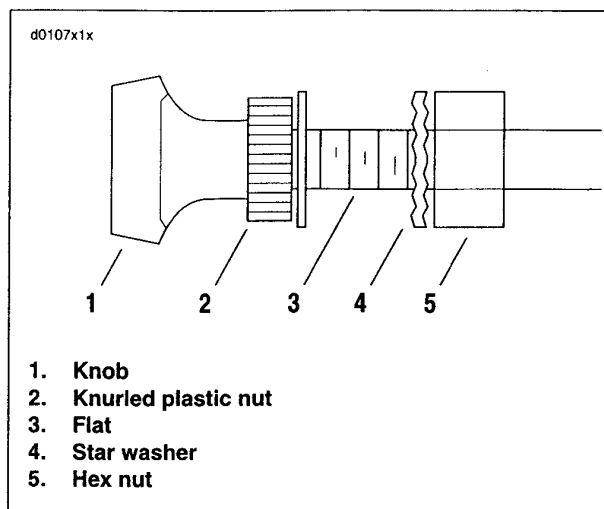

Figure 1-57. Enrichener Control
See Figure 1-57. Check fuel enrichener operation. The fuel enrichener knob (1) should open, remain open and then close without binding. The knurled plastic nut (2) next to the enrichener knob controls the ease or difficulty with which the cable slides within the cable conduit.
1. Loosen hex nut (5) at backside of mounting bracket.
3. Hold cable assembly at flat (3) with an adjustable wrench. Turn knurled plastic nut (2) by hand to set sliding resistance.
4. Position cable assembly in slot in bracket. Tighten hex nut (5) at backside of bracket.